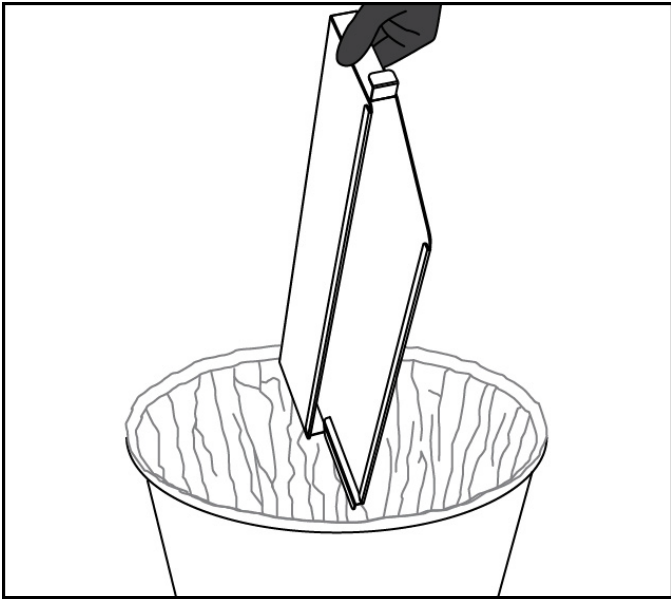

Figure 6-13
11. Remove and empty the grease cans in a lined grease bucket. See Figure 6-13